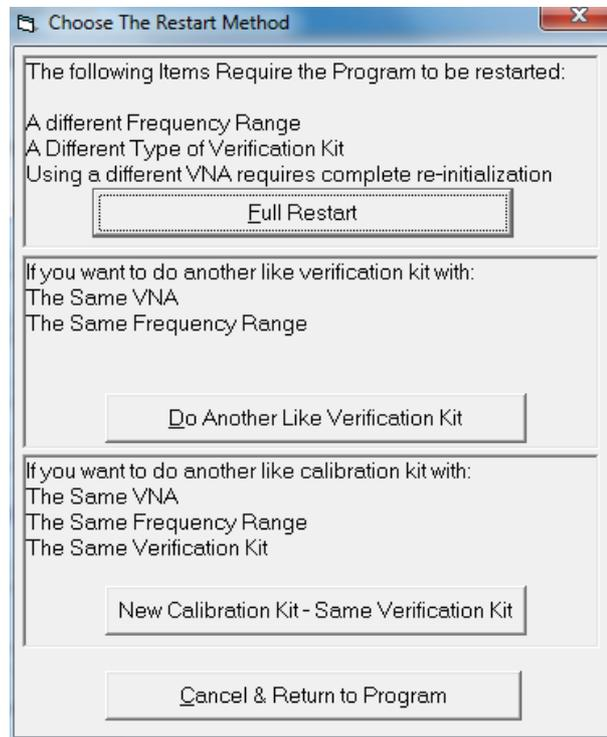

Figure 5-83. Choose The Restart Method Dialog
3. The Choose The Restart Method dialog box appears as shown in Figure 5-83.